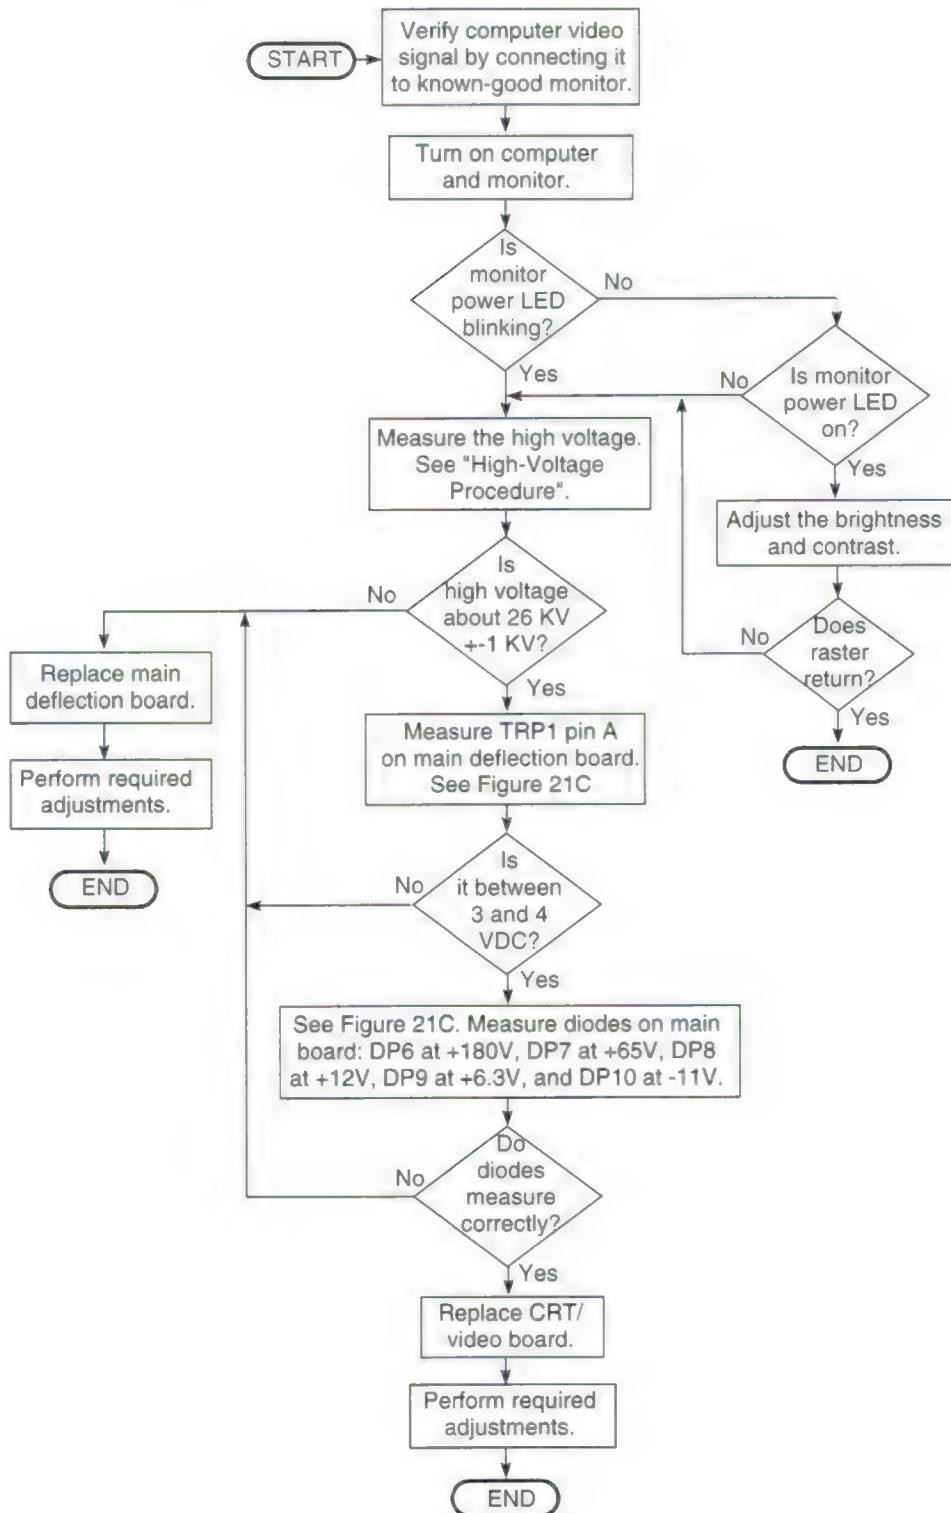
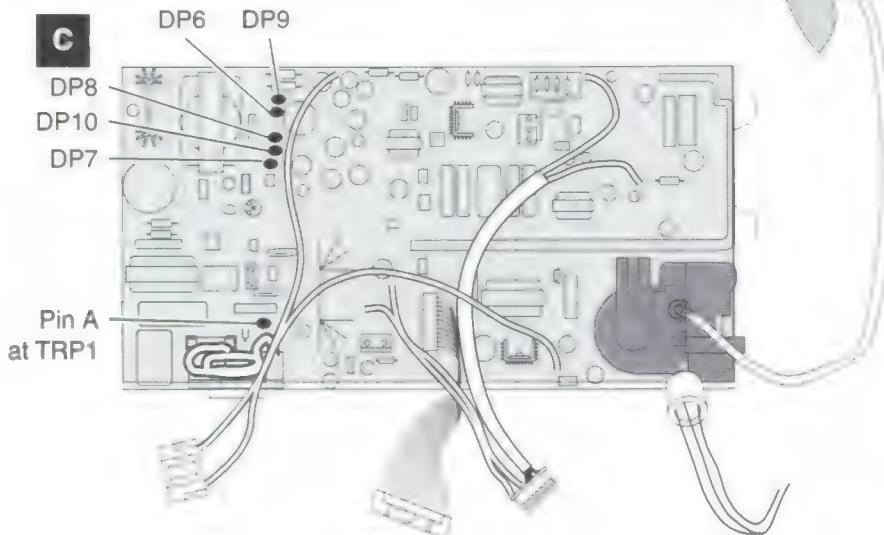

Figure 16. No Video Flowchart
Figure 21. Troubleshooting Test Points
The flowcharts (Figures 16–20) and Figure 21, "Troubleshooting Test Points," that follow this Symptom/Cure Chart provide additional information for identifying problems and possible cures. Use the flowcharts in conjunction with this Symptom/Cure Chart for best results.
No video (See Figure 16)
This high-voltage check is a required procedure in the No Video Flowchart (Figure 16). When the monitor has a No Video condition, the high-voltage check would be the first step in ruling out a main deflection board problem.
9. See Figure 16, "No Video Flowchart."